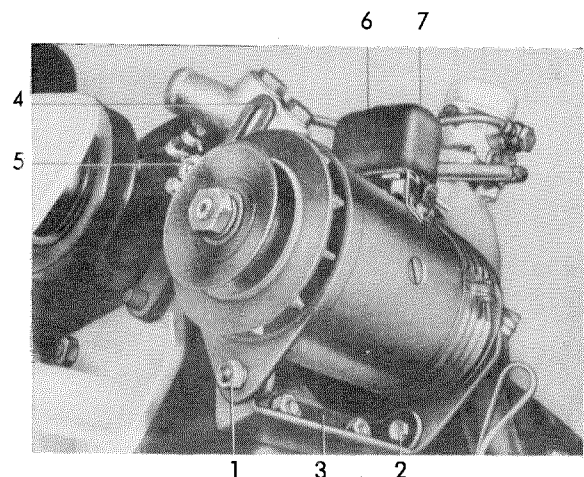

Figure 20-6/2
Note: On the engines with rigid generator mounting (see Figure 20-6/2) the holder (4) is not divided.